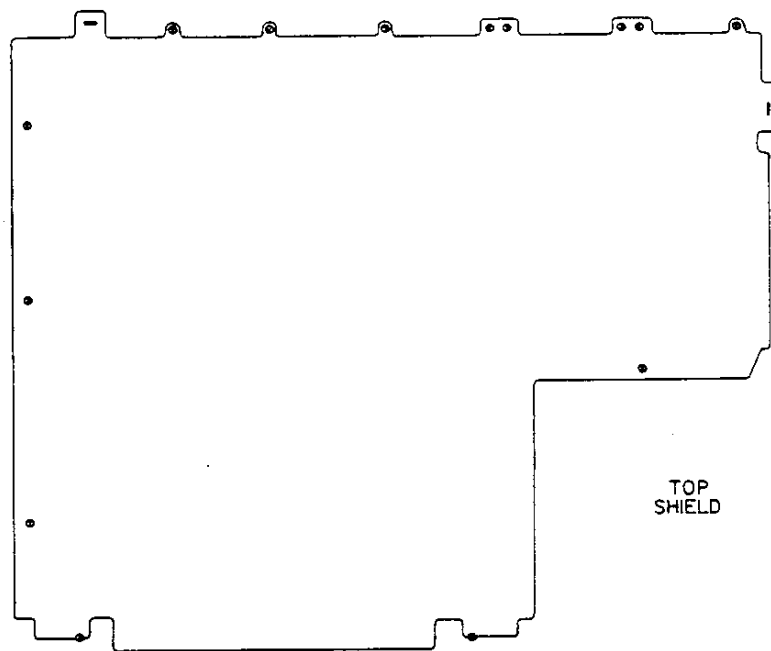

Fig. 2-7. Shield Screw/Tab Locations
2.4.1 As shown in Fig. 2-7, remove the following screws: